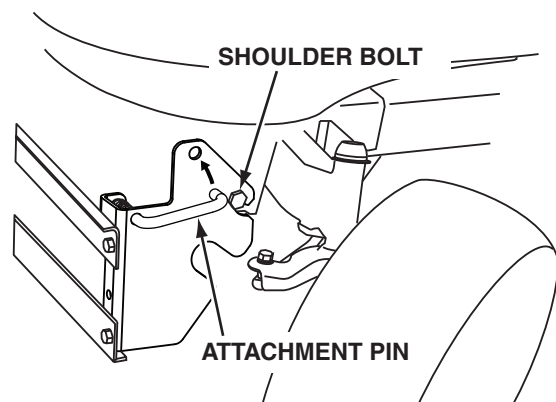

Figure 9
14. Pull out on the attachment pins on the hitch assembly and swing the top of the pins down away from the holes they were in. See figure 9.
15. Hook the hitch assembly onto the shoulder bolts in the sides of the tractor frame. See figure 9.
16. Align the holes in the hitch assembly with the holes in the tractor frame. Insert the attachment pins to lock the hitch assembly in place. See figure 9.